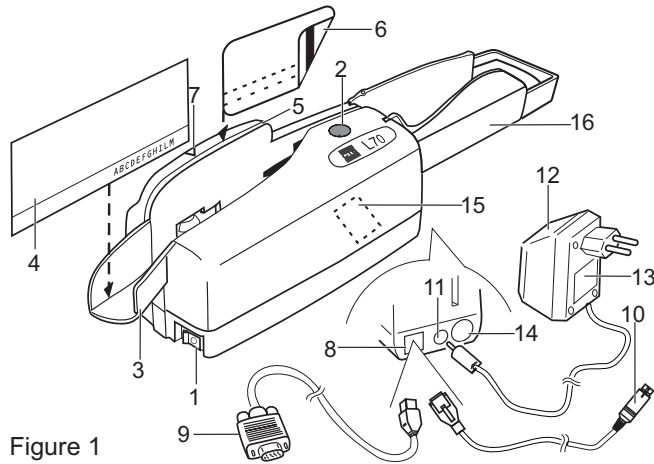

Figure 1
**Connecting** (see the figure 1 and 2)
**Reader power up** (see the figure 1)
- Switch ON the reader (1);
**ON-LINE Operation document** (see the figure 1)
- Insert the document in the reader with the CODE LINE turned as indicated on figure 1.
**ON-LINE Operation badge** (see the figure 1)
- Insert the badge in the guide (5), with the magnetic stripe opposite you and facing the notch (7)